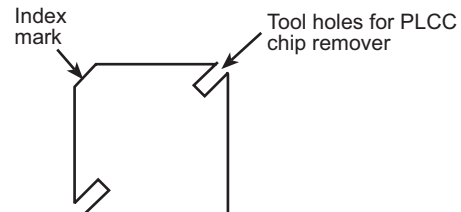

Figure 5. Locations of PLCC Tabs and Index Mark
7. Use the PLCC chip remover to removed any socketed PLCC components before washing the printed-circuit board. Figure 5 shows the tool holes for the PLCC chip remover. Note the locations on the board where these components came from since *they will have to be replaced without being interchanged*.